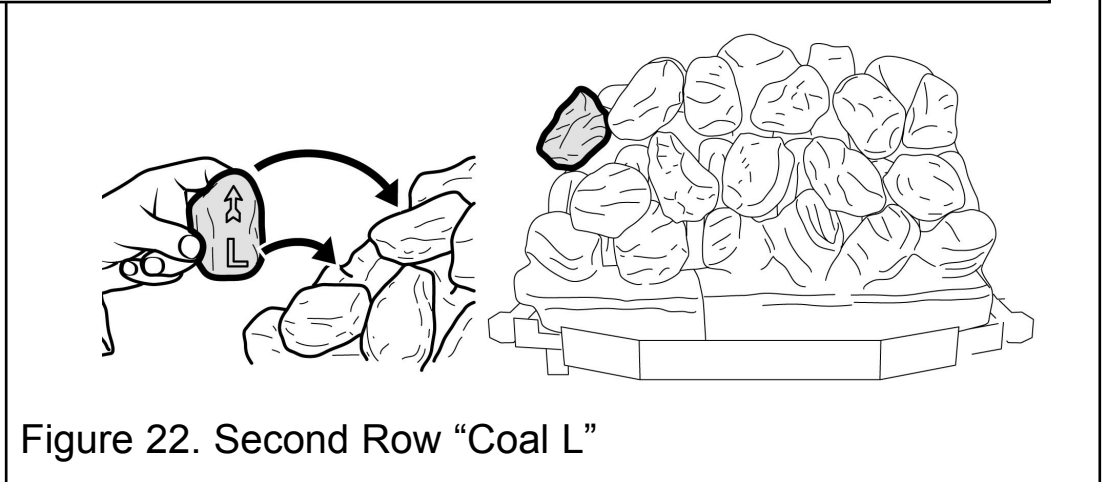

Figure 22. Second Row "Coal L"
20. Hold coal 'L' upright with the arrow pointing to the top. Locate coal 'L' as shown in figure 22